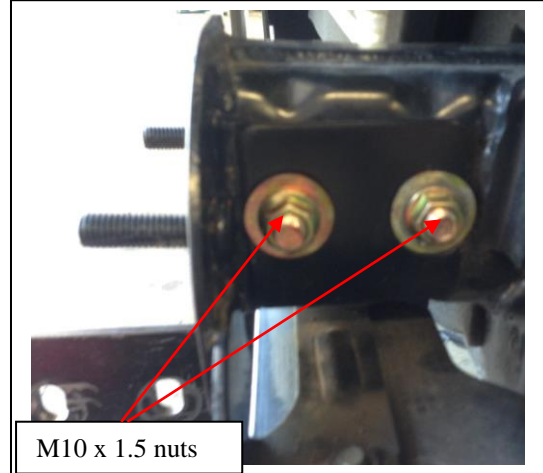

Figure 2 – Vehicle stripped down for illustration purpose only
2. Working on one side at a time position the ECB steel mounting bracket (supplied) inside of the chassis rail. From the outside of the chassis rail place the two spacer tubes (supplied) through the holes in the chassis rail until they touch the steel mounting bracket. Insert the M10 x 1.5 x 85mm bolts, flat in spring washers (supplied) through steel mounting bracket, spacer tube and the outer chassis plate (supplied) Use M10 x 1.5 nuts (supplied) and figure tighten in position. **See figure 2.**